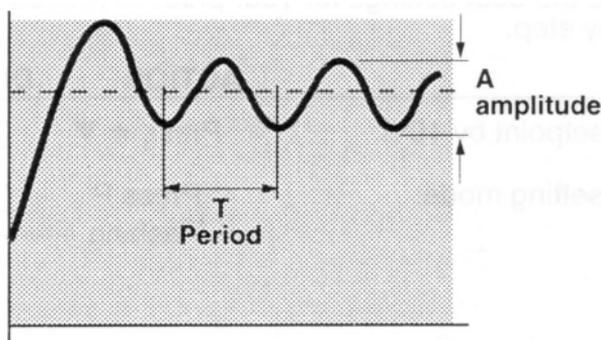

Figure 5-3. Simplified Tuning Method
3. Turn ON and allow process to stabilize. Monitor process temperature, ideally using a chart recorder, or alternatively by taking readings from the display at regular intervals, as frequently as possible. The results should look similar to Figure 5-3.
4. Using the figures obtained for the oscillation period (T) seconds and amplitude (A) degrees (refer to Figure 5-3), the following parameter values can be calculated: